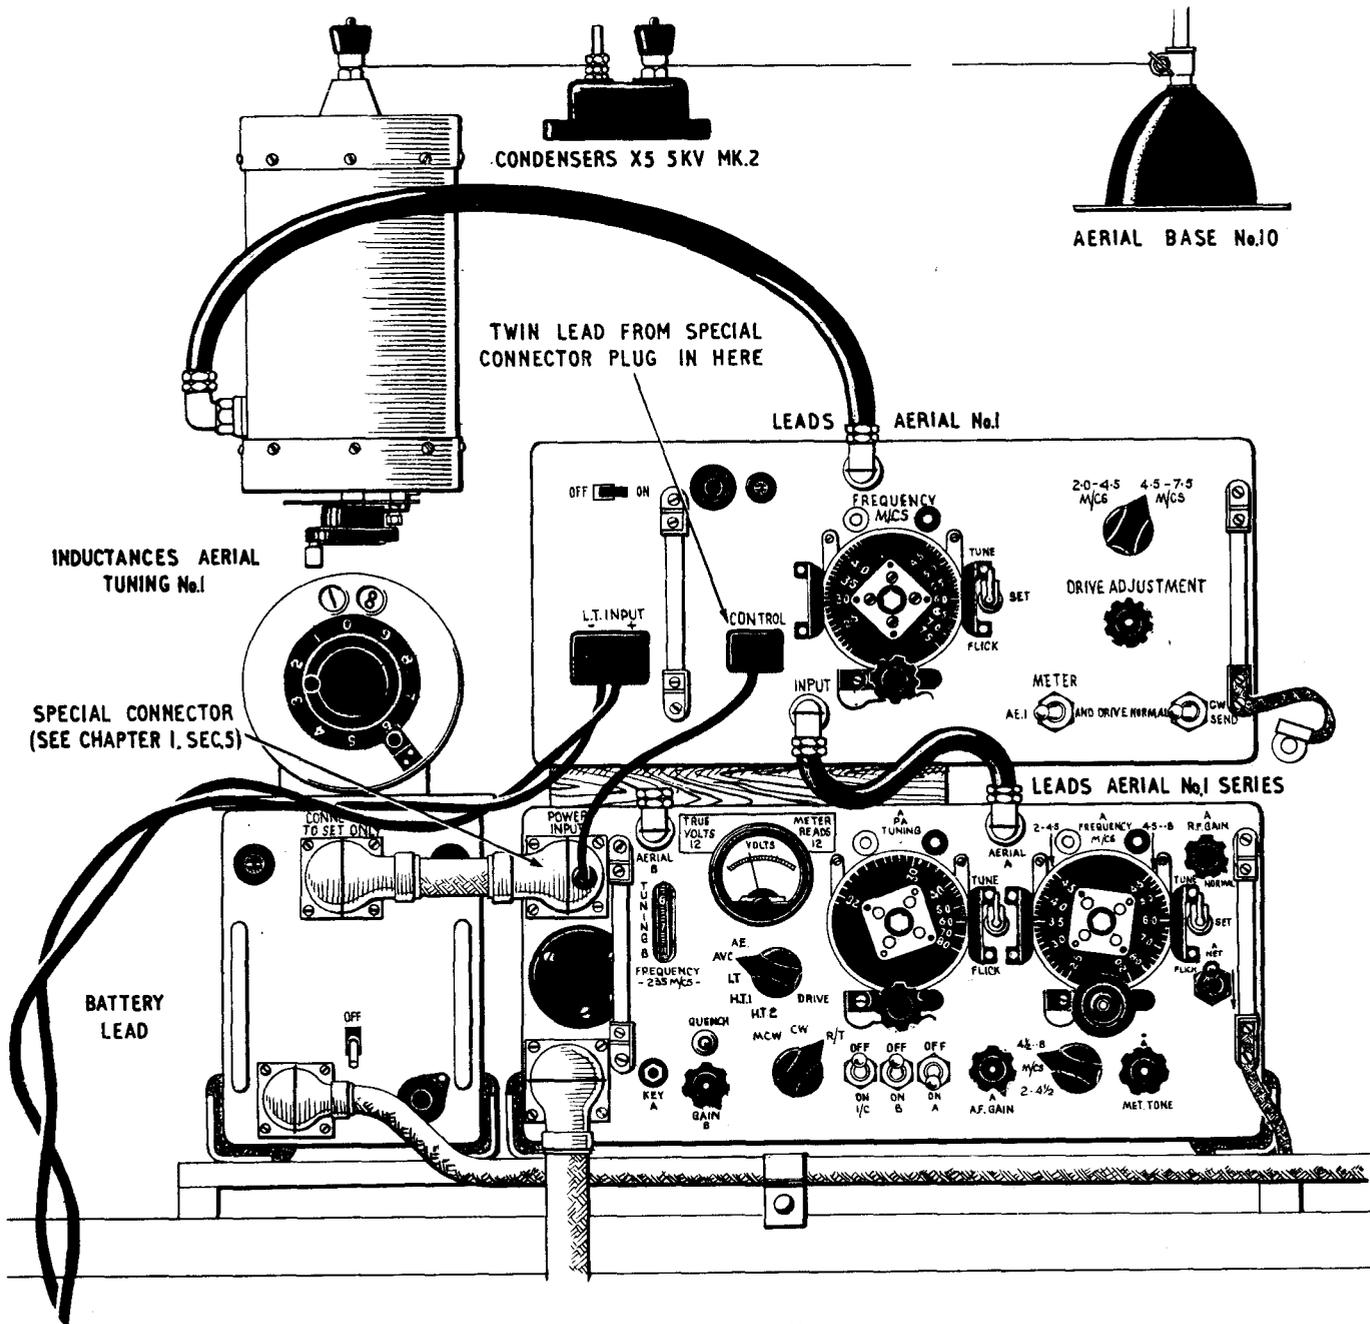
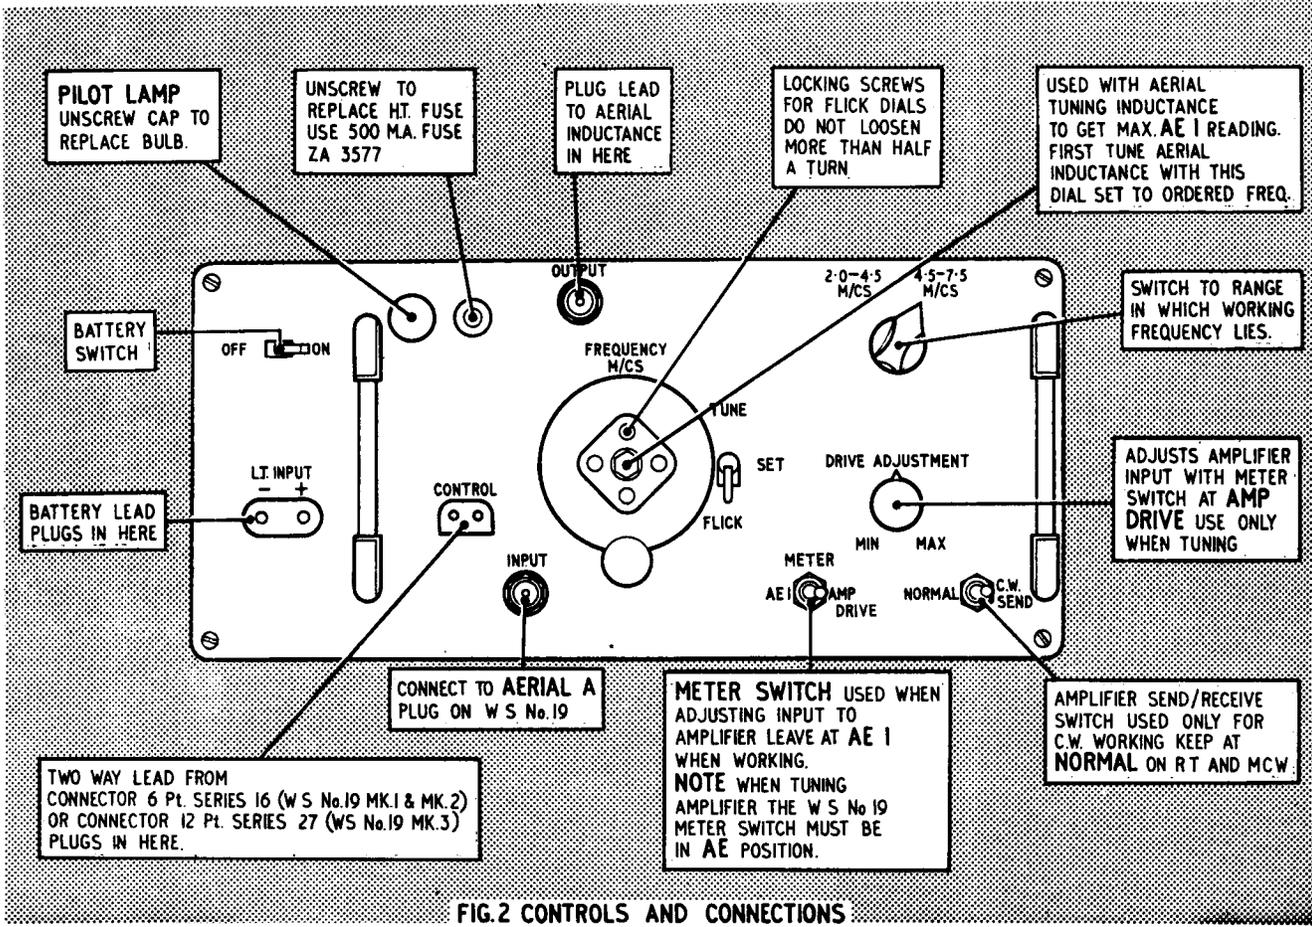

FIG. 1 TYPICAL LAYOUT
FIG. 2 CONTROLS AND CONNECTIONS
Fig. 1 shows a typical layout with an R.F. Amplifier No. 2 mounted on top of the Wireless Set No. 19, but in some installations the amplifier has to be mounted on a separate carrier. Connectors of suitable length are supplied with each installation kit.
The various controls are given below and are shown in Fig. 2.
- (1) Connecting OUTPUT feeder.)
- (2) Connecting INPUT feeder.)
- (3) Connecting the power supply.) see Figs. 1 and 2.
- (4) Connecting CONTROL lead.)
- (5) Replacing H.T. fuse (see Fig. 2).
- (6) Changing indicator bulb (see Fig. 2).
- (7) Taking off the grille.) See W.S. No. 19 Working
- (8) Taking the amplifier out of its case.) Instructions, Part I.
- (9) Changing valves. If the amplifier gives poor results it may be necessary to change valves; leave this to a Radio Mechanic whenever possible.